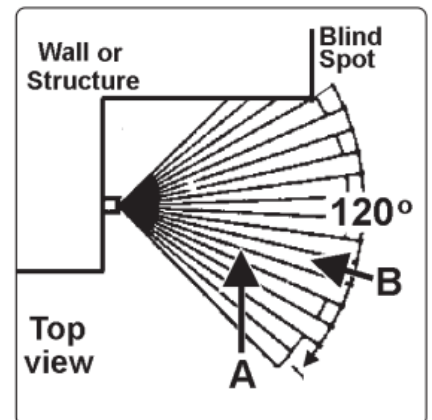

fig.3
- Adjustment may be made by turning the three switches located on the underside of the sensor as follows: (fig.3).